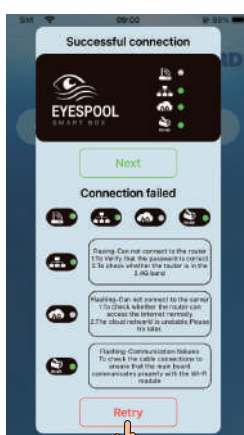
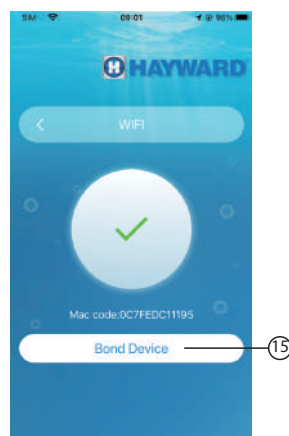

Fig.11 Enable bluetooth permission
Fig.12 Bluetooth setting interface
4. Turn on bluetooth and back to the APP, directly enter the searching device interface(Fig. 13). If the connection fails or succeeds, a pop-up window will appear. If the connection fails(Fig.11), try again as prompted. If successful(Fig.12), check the light 1 of the wifi module indicator, and then select the operation according to the prompts.
5. Click (15) to bond device (Fig.12);